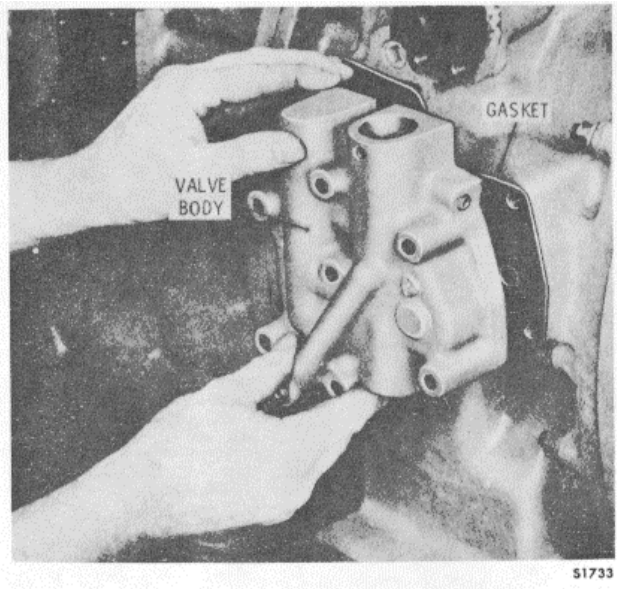

Figure 15-185. Installing Lockup Shift Valve Body Assembly
5. Install the lockup shift valve body gasket (Figure 15-185). Install the lockup shift valve body assembly onto the transmission.